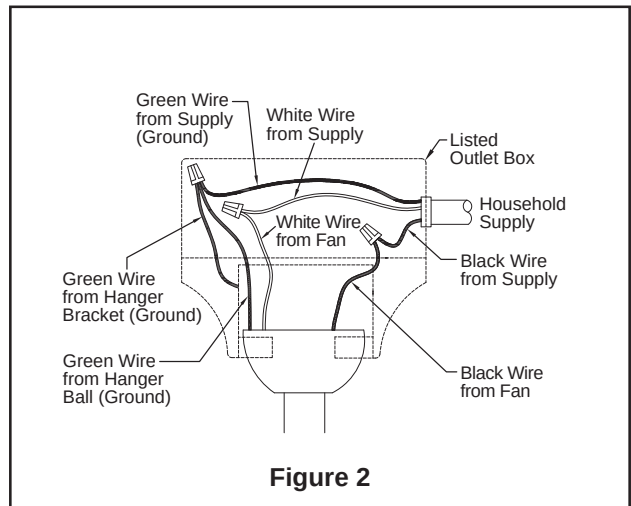

Figure 2
1. Connect the green grounding lead from the downrod/hanger ball assembly and the green grounding lead from the hanger bracket to the supply grounding conductor (this may be a bare wire or wire with green colored insulation). Securely connect wires with wire connector. Securely connect the white fan motor wire to the white supply (neutral) wire using wire connector. Securely connect the black fan motor wire to the black supply wire using wire connector (Figure 2).